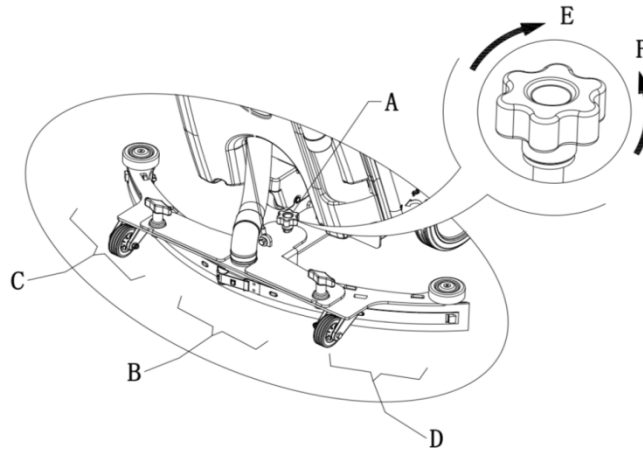

Figure 9
1. Install the squeegee and screw up the nut (16), then connect the vacuum hose (11) to the squeegee.
2. Adjust the squeegee by squeegee adjusting handle (A, Figure 9).
- If there is gap between the ground and middle section of rear squeegee blade (B), adjust the knob (A) in counterclockwise direction (F) until all section of rear squeegee blade good contact with ground, the front blade touch the ground slightly.
- If there is gap between the ground and both end section of rear blade(C and D), adjust the knob (A) in clockwise direction (E) until all section of rear blade good contact with the ground, the front blade touch the ground slightly.